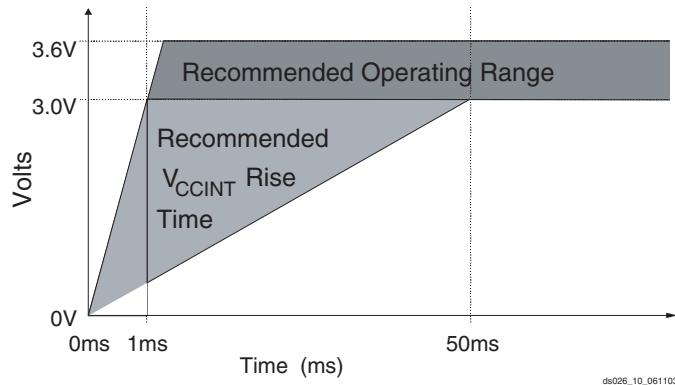

Figure 8: V_{CCINT} Power-Up Requirements
On power up, OE/RESET is held low until the XC18V00 is active (1 ms). OE/RESET is connected to an external 4.7kΩ resistor to pull OE/RESET HIGH releasing the FPGA INIT and allowing configuration to begin. If the power drops below 2.0V, the PROM resets. OE/RESET polarity is *not* programmable. See Figure 8 for power-up requirements.
- At power up, the device requires the V_{CCINT} power supply to monotonically rise from 0V to nominal voltage within the specified V_{CCINT} rise time. If the power supply cannot meet this requirement, then the device might not perform power-on-reset properly. See Figure 8.